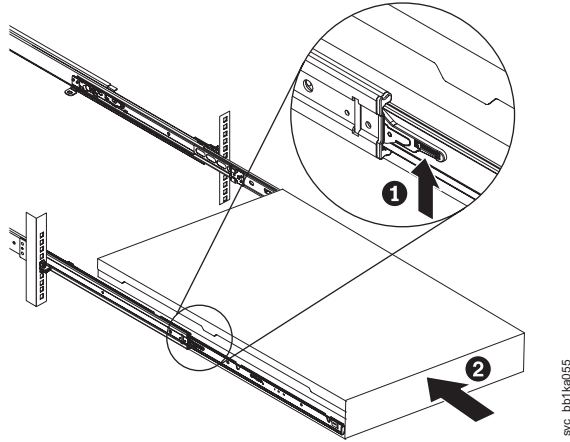

Figure 70. Raising the SAN Volume Controller 2145-CF8 or 2145-CG8 locking levers of the slide rails of the rack
- | 7. Lift the locking levers ( **1** in Figure 70 on page 83) on the slide rails and push the server **2** all the